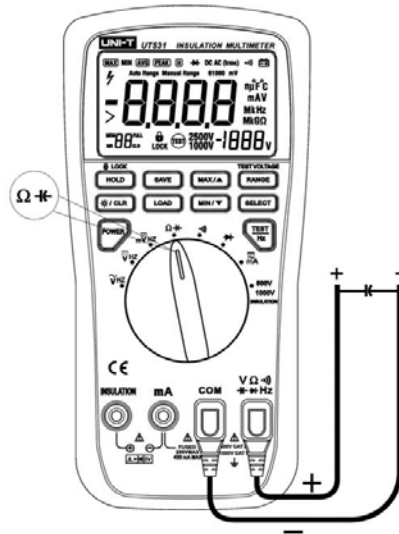

Figure 9. Measuring Capacitance
- **Measuring Capacitance** (see figure 9)